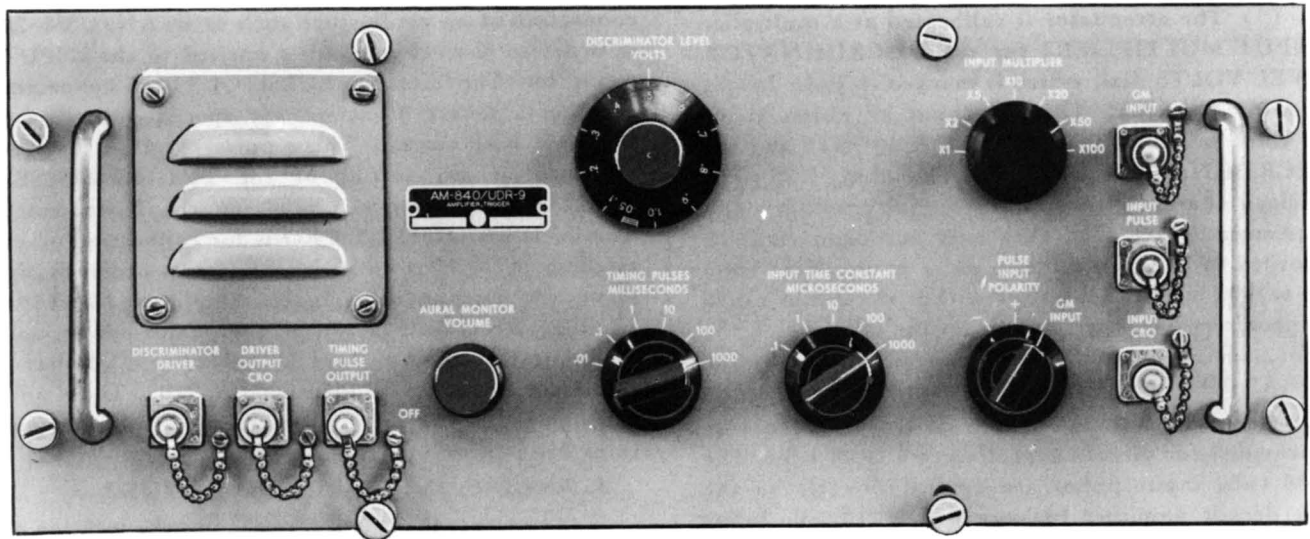

Figure 4-2. Trigger Amplifier AM-840/UDR-9, Front Panel Controls
(1) General.—Figure 4-2 is a front panel view of this unit showing the location of controls and connectors. Pulses from the G-M tube are applied to the G-M INPUT connector through suitable high voltage cable. A cable is supplied for connection to a G-M tube. The INPUT PULSE connector is used with other types of radiac detectors which are of the non-integrating (pulse type) variety. Preamplifiers, pre-scalers, or other pulse amplifiers may also be used providing that the output is similar to that of the non-